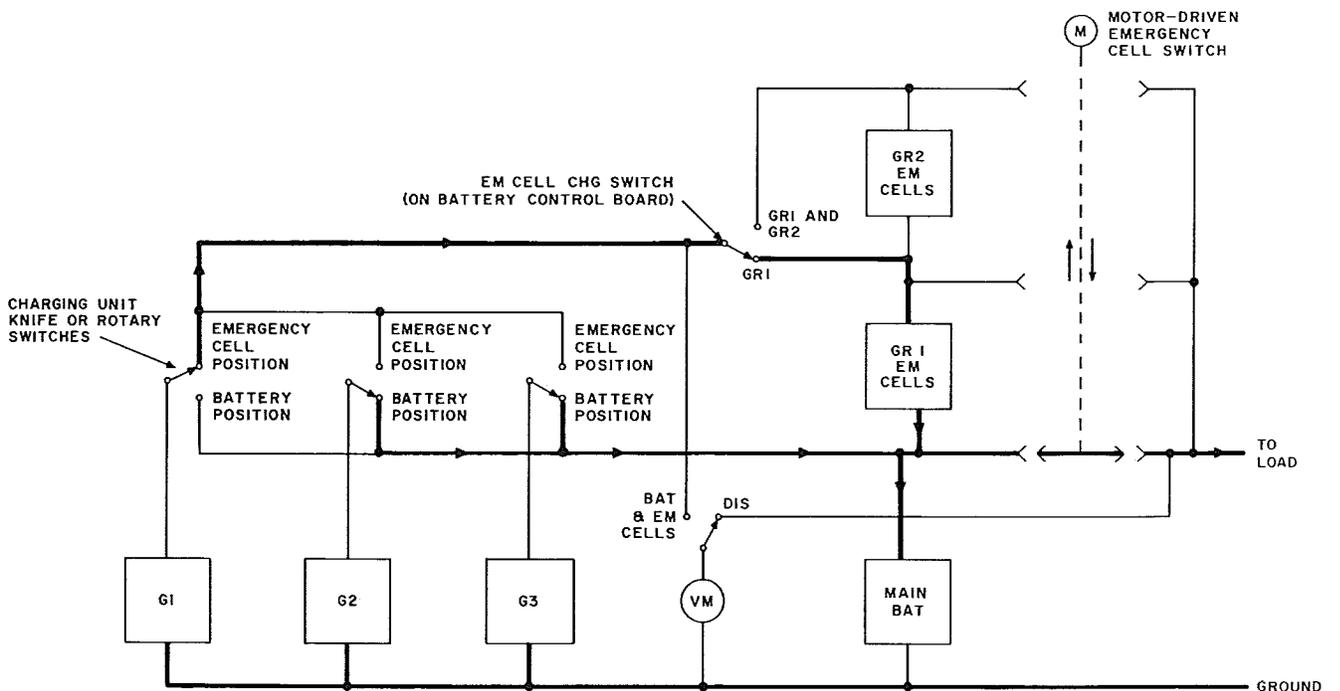
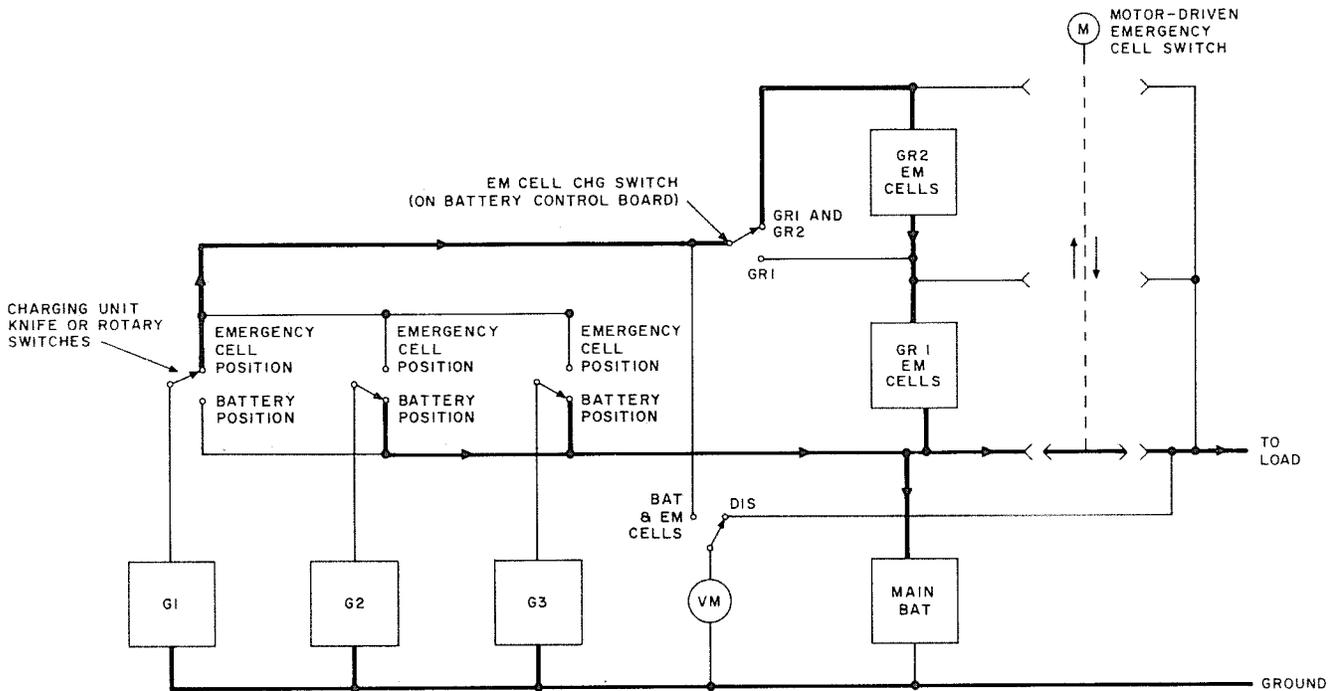

Fig. 6—Normal Load—GR1 EM Cells Recharged by G1—G2 and G3 Supplying Load and Floating Main Battery
Fig. 7—Normal Load—GR1 and GR2 EM Cells Recharged by G1—G2 and G3 Supplying Load and Floating Main Battery
(b) Fig. 6—revised.
3.07 When a power failure has required the use of the GR2 emergency cells, the G1 rectifier should be connected to the GR2 bus as shown in Fig. 7. With this connection, the G1 rectifier is arranged to sense the GR2 bus voltage and break off as the GR2 and GR1 voltage rises. Since GR2 is usually discharged less than GR1, recharge of GR2 should be followed by a move to the connection shown in Fig. 6 to continue recharge of GR1.